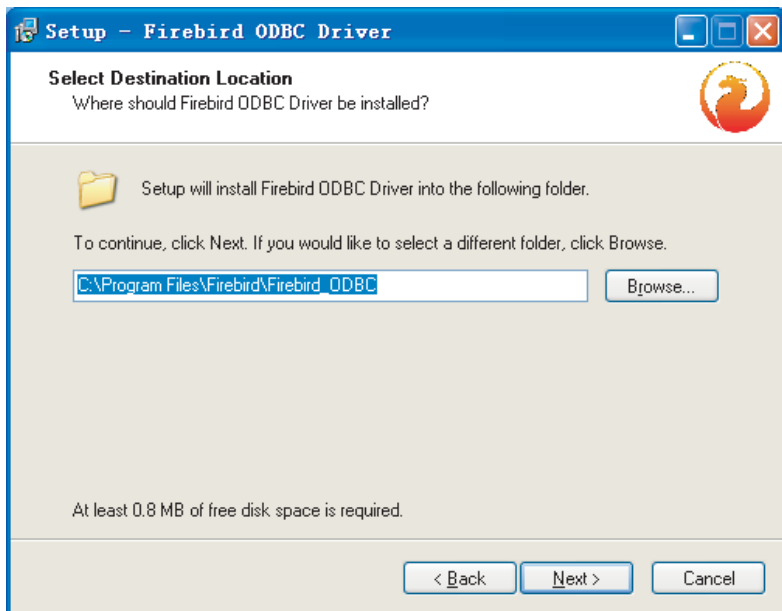
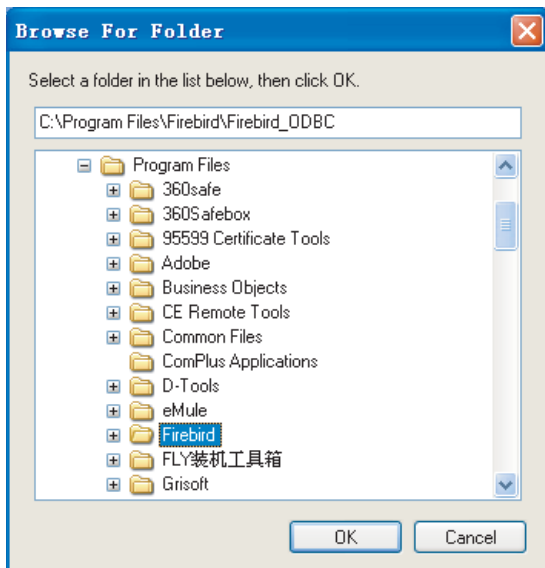

Fig. 2-17
Fig. 2-18
4) Installation window as Fig.2-17, click “Browse.....” Key to select the installation address for the Firebird database (See Fig. 2-18), and then click “Next” to continue the installation: